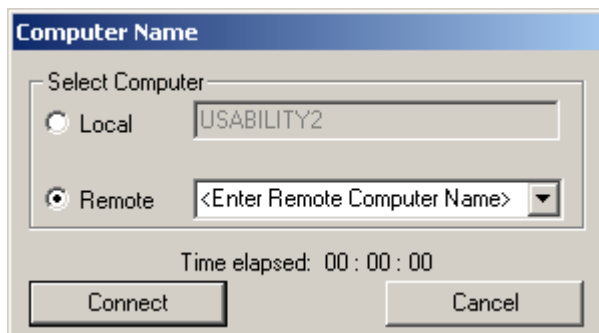

Figure 6. Computer Name Dialog Box - Remote
4. The local computer name is displayed by default. To connect to the local computer, click **Connect**. To connect to a remote computer, select the **Remote** radio button (Figure 6), enter the remote computer name, and click **Connect**. For TCP/IP networks, you can enter the IP address instead of the remote computer name.
page 42 or Figure 6, “Computer Name Dialog Box - Remote”, on page 42). The top branch of the tree structure, Configured Devices on..., includes the name of the computer you connected to. If you entered an IP address in the **Computer Name** dialog box, the IP address is shown instead of the computer name.